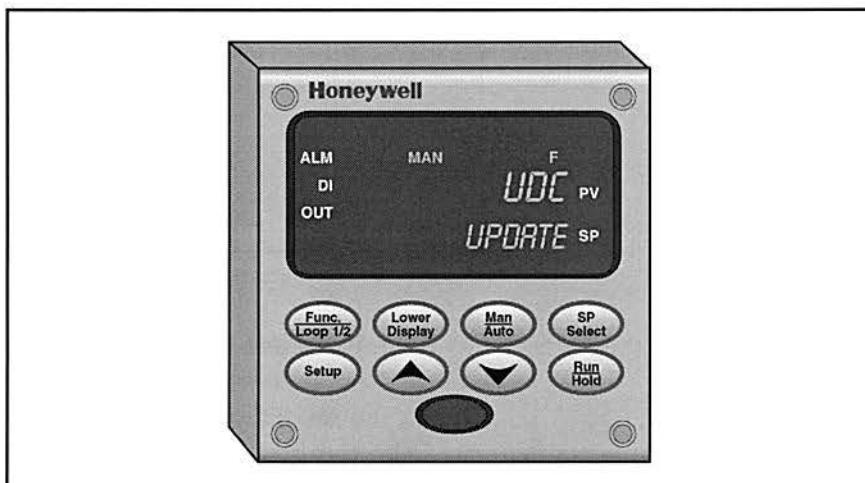

Figure 38. Honeywell UDC 3500 Controller Factory Reset Initialized
Step 2: Initiate the Restoration during Power Up Sequence – Simultaneously pressing the Func Loop 1/2 and up ▲ arrow keys while “TEST DONE” appears on the display places the controller in the restoration mode. The upper display should show “UDC” and the lower display should show “UPDATE”, as figure 38 shows.